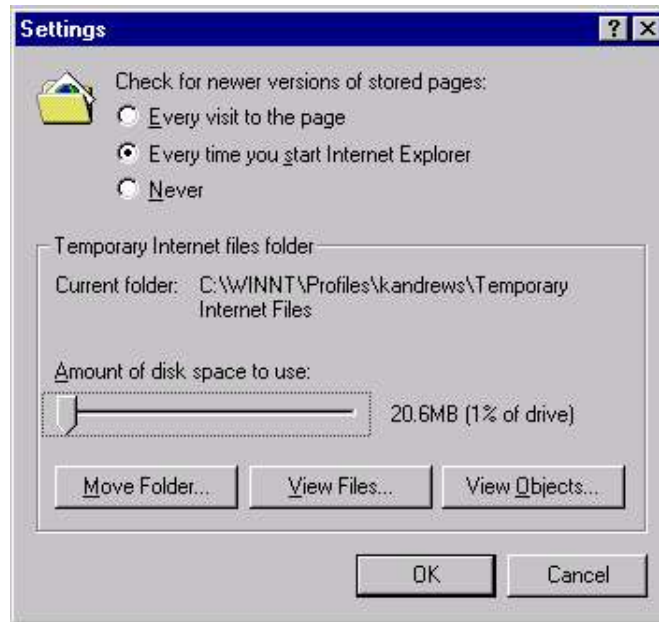

Figure 2.42: Internet Explorer 4.0 cache settings panel.
- The Internet Explorer 4.0 cache size can only be set in increments of 1% of the size of the hard disk, as shown in Figure 2.42.